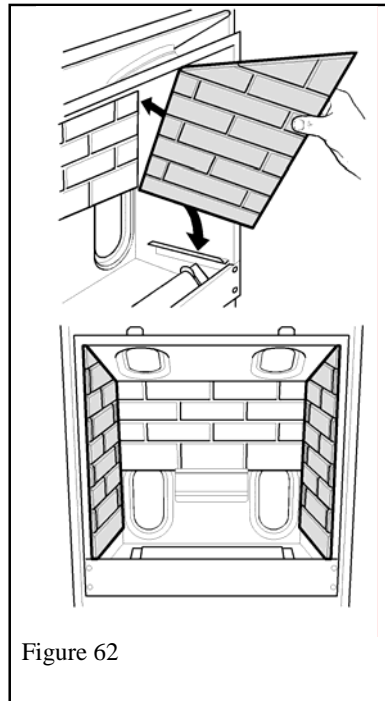

Figure 62
2. Locate the side walls in the channels at the sides of the firebox. See figure 62.